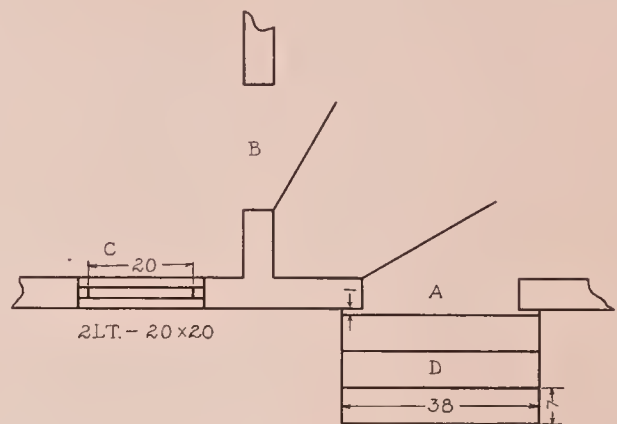

FIG. 1.
A. *Make a freehand sketch of plan* on half-inch squared paper to a scale of $\frac{1}{2}''=1'$. Walls are to be 6'' thick and represented as in Fig. 1. Outside doors are to be 2' 3'' wide; inside doors are to
be 2' wide; and they are to be represented as at A and B in Fig. 1. Windows are to be 1' 10'' wide and are to be represented as at C in Fig. 1. Show three steps at outside doors as at D in Fig. 1.